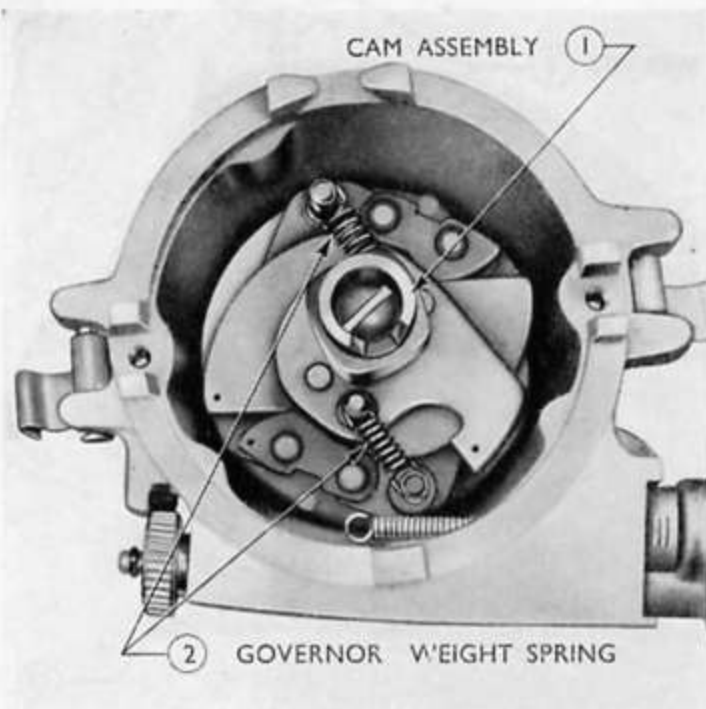

Fig. 27
7. Connect the springs to the pegs on the cam plate (see Fig. 27), and check the action of the weights in the fully advanced and retarded positions for freedom of movement and lightly lubricate all parts with engine oil.